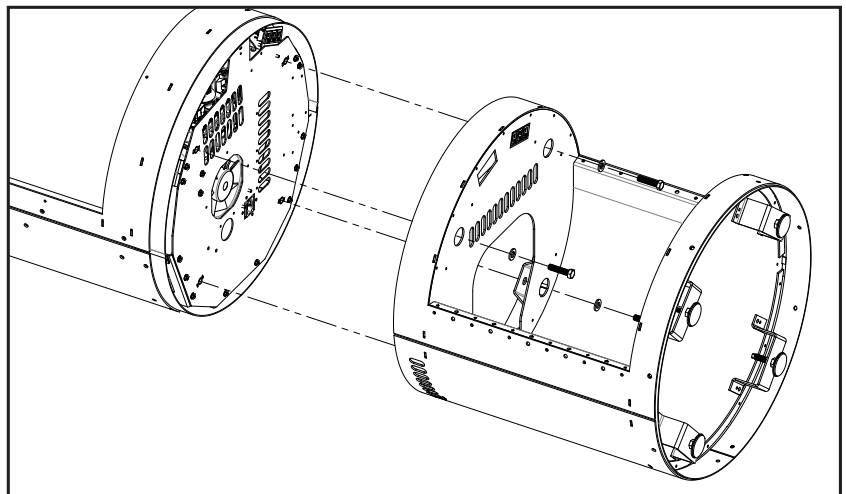

Figure 83: Wood Pedestal Installation
The wood pedestal comes packaged with four (4) hex head bolts and four (4) washers used to secure the pedestal onto the unit. Fasten the wood pedestal to the unit using the same threaded holes that the leveling legs were installed (see Figure 83).